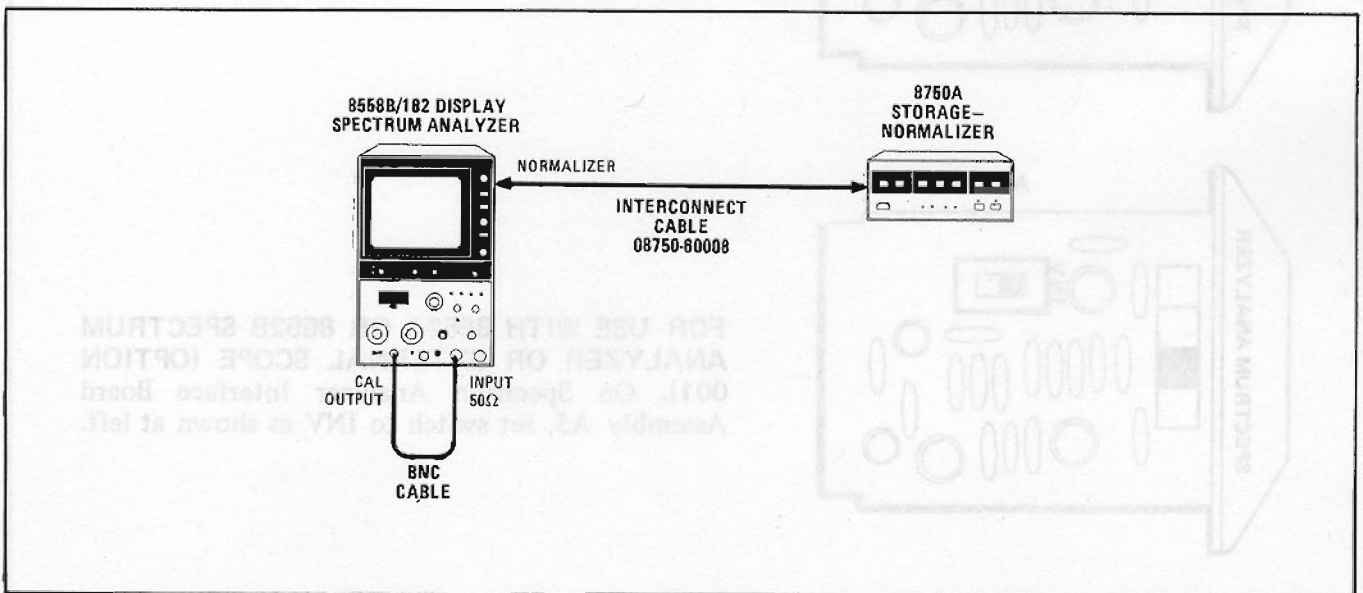

Figure 3-9. Typical Test Setup with Spectrum Analyzer
1. Connect equipment as shown in Figure 3-9.